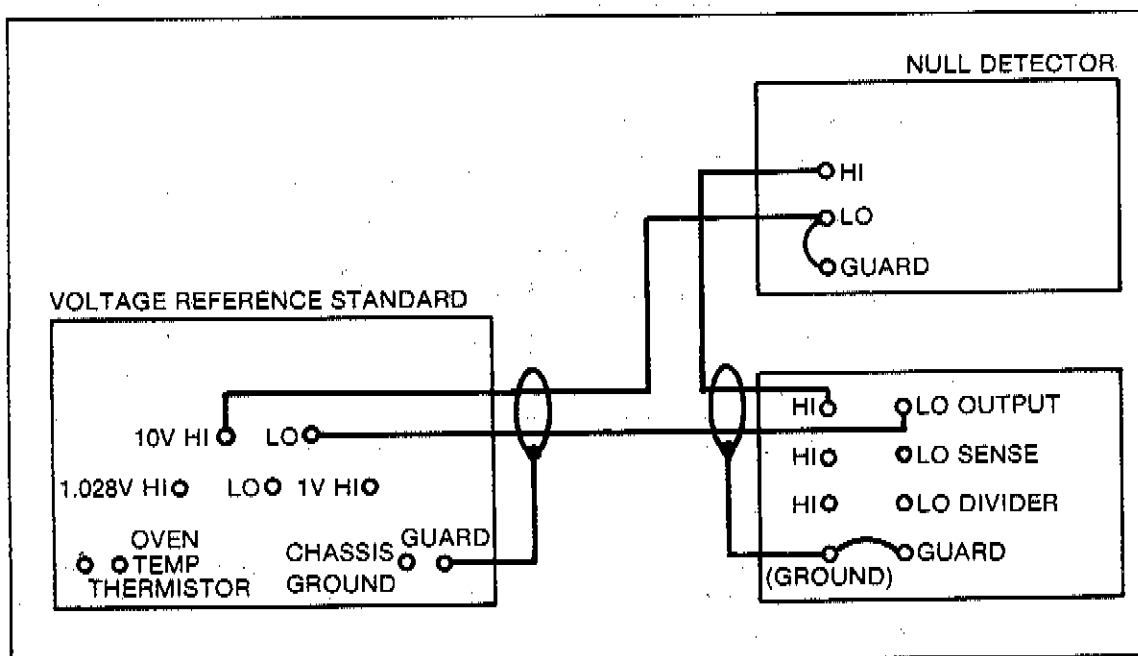

Figure 3-3. Line Regulation Test
4. Connect the test equipment as shown in Figure 3-3.